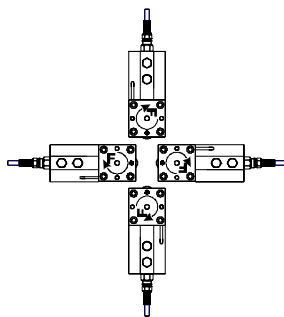

FIG. 19: LOAD POINT ASSEMBLIES ORIENTATION
- Step 12. Slide the load point assembly/base plate onto the anchor bolts. You can install the load point assemblies in one of four orientations. (See Fig. 19)